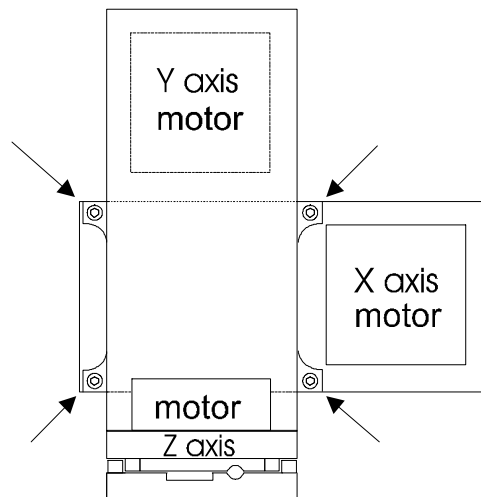

Figure 7-17. Y-axis mounting screws indicated by arrows (Right hand MP-285, top view).
4. Identify the four hex (Allen) “cap” screws that mount the Y-axis slide assembly on top of the X-axis slide assembly (indicated by arrows in Figure 7-17). Using a 2.5mm Allen wrench remove those 4 screws. The Allen wrench that was shipped with the MP-285 for removing the shipping screws is the correct size for these screws as well.